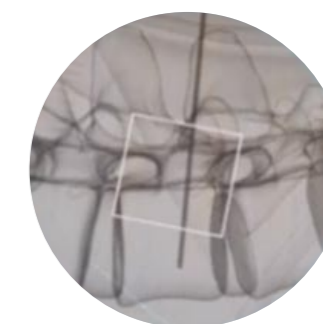

Fig. 4
**Note** Ensure the K-WIREs remain securely in position throughout the entire duration of the procedure. The tip of the K-WIRE should be monitored by fluoroscopy to ensure it does not penetrate the anterior wall of the vertebral body and damage the vessels situated anteriorly. (Fig. 4)